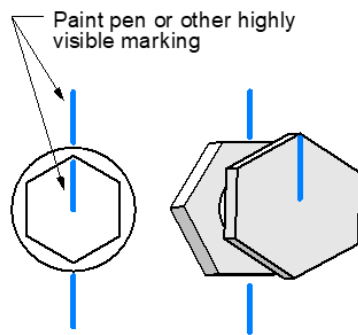

Figure 10-21: 12 o'clock Position - Head of Adjustment Bolts
10. To simplify the liner adjustment, mark the head of the adjustment bolts at the 12 o'clock position with the adjustment bolts tight (Figure 10-21). Mark the plate at the 2 o'clock and 6 o'clock positions, or at the desired adjustment interval. For adjustment procedure, see Section 10.3.9, "Adjusting the Suction Liner: Procedure."